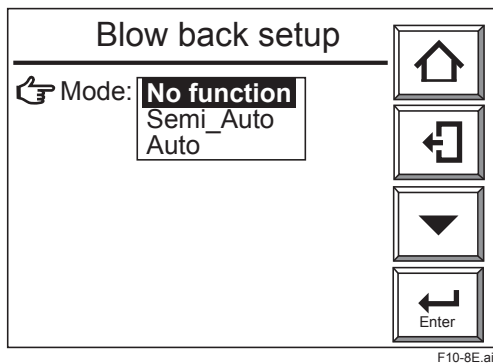

Figure 10.8 Blow back setup Display
- (1) From the Basic panel display, touch [Setup] key; on the Execution/Setup display which appears, select “Maintenance”.
- (2) On the Maintenance display, select “Blow back setup” and the Mode selection pull down allows you to select between “No function”, “Semi\_Auto” and “Auto” (see Figure 10.8).